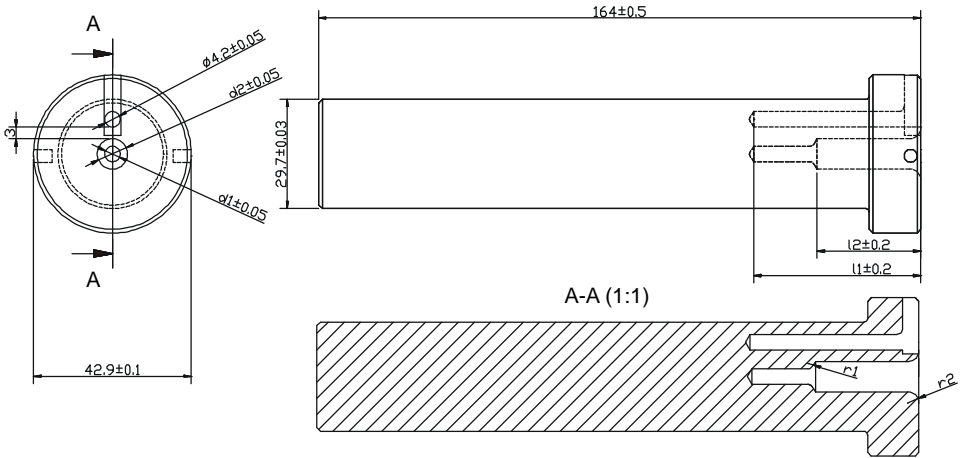

Fig. 4
2. The hole for the sensor is placed in the centre of the insert. The diameter is stated as the measured diameter + 0.2 mm. The tolerance of the diameter must be  $\pm 0.05$  as indicated in fig. 4.
4. The hole for the reference probe must be similar to the total length of the sensor “l1”, see fig. 4. The diameter of the hole for the reference probe is  $\varnothing 4.2$  mm as indicated in fig. 4.